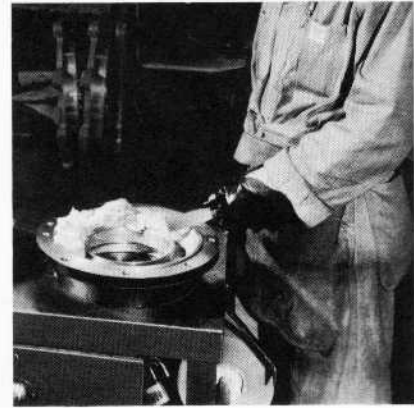

Fig. 4 - Rough Application Of Grease To P.E. Cap
- b. Grease should be solidly packed only into the lower 170° - 270° (depending on the parts and specified quantity) of the cap or cover keeping the ungreased portion at the top when motor is in operating position, Fig. 4. The bottom of caps and covers can be determined as follows:
- (1) The C.E. bearing cover has a narrow drain slot at the bottom.